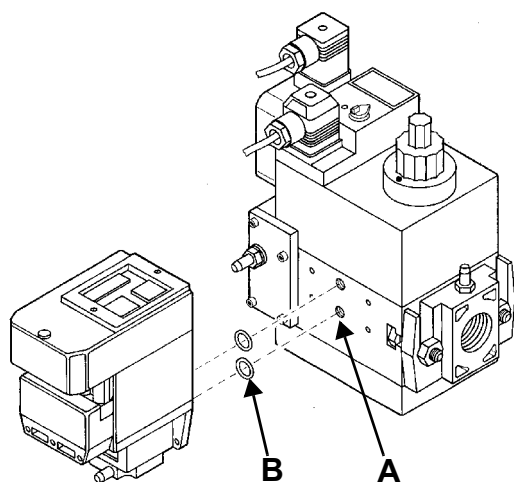
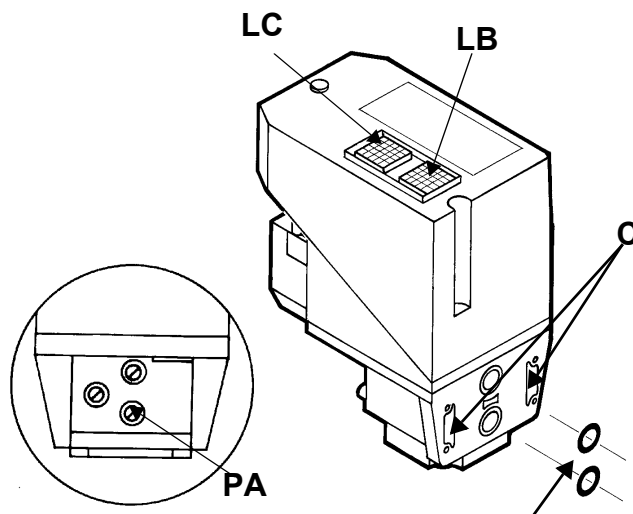

Fig. 35
Fig. 36
- 3 remove the Multibloc's screw plugs (Fig. 35-A);
- 4 insert sealing rings (10,5 x 2,25) into VPS 504 (Fig. 36-B, Fig. 35-B)
- 5 Torque screws 3, 4, 5, 6 (M4 x16) Fig. 35-C
When wishing to monitor the test, install a pressure gauge ranged to that of the pressure supply point **PA** (Fig. 36). If the test cycle is satisfactory, after a few seconds the consent light **LC** (yellow) comes on. In the opposite case the lockout light **LB** (red) comes on. To restart it is necessary to reset the appliance by pressing the illuminated pushbutton **LB**.